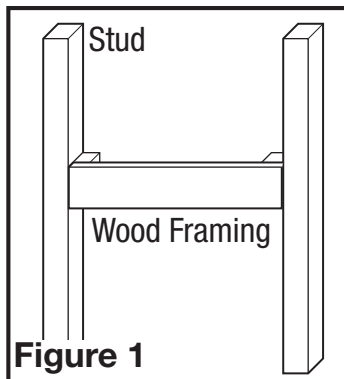

Figure 1
- Where studs are not available, you must construct wood wall framing that is flush with the surface of wall studs. Wood wall framing should be at least 1/2" thick and 3" high. Two or more frame cross members may be required for the 4 mounting screws. All four (4) screws should secure the hood to the wood frame (Figure 1).